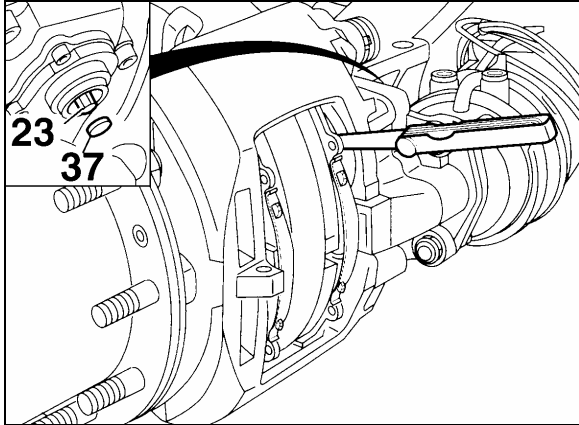

FIGURE 38: RUNNING CLEARANCE 12116
- a) Insert a feeler gauge 0.028 inch (0.7 mm thickness) between tappet and pad back-plate (Fig. 38). Turn adjuster pinion clockwise until 0.028 inch (0.7 mm) clearance is achieved. Replace cap (37) (Prevost # 641313).
- b) To ensure a constant running clearance between the rotor and pads, the brake is equipped with an automatic adjuster unit. When the pads and rotor wear, the running clearance between the pads and rotor increases. The adjuster (23, Fig. 38) and turning device turn the threaded tubes by the amount necessary to compensate the wear.